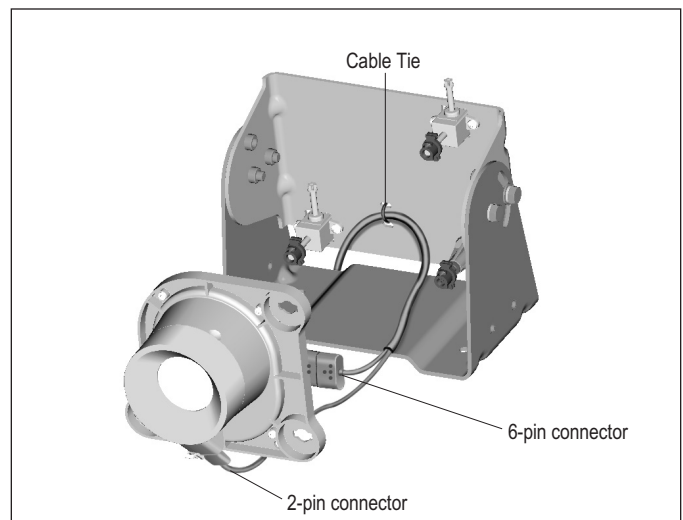

FIGURE 21 - CONNECTING THE CAMERA HARNESSSES
10. Plug the 2-pin connector of the IR camera harness into the window heater. Refer to Figure 21.
11. Plug the 6-pin connector of the IR camera harness into the IR camera connection. Refer to Figure 21.